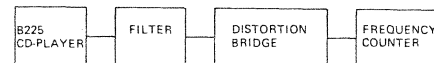

Fig. 4.16
- Measuring arrangement according to Fig. 4.16